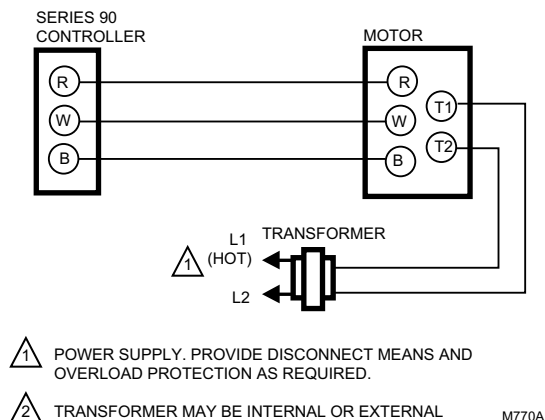

Fig. 5. Typical Series 90 Wiring.
5. Refer to Fig. 5 for typical wiring, and Fig. 7 for internal auxiliary switch connections.